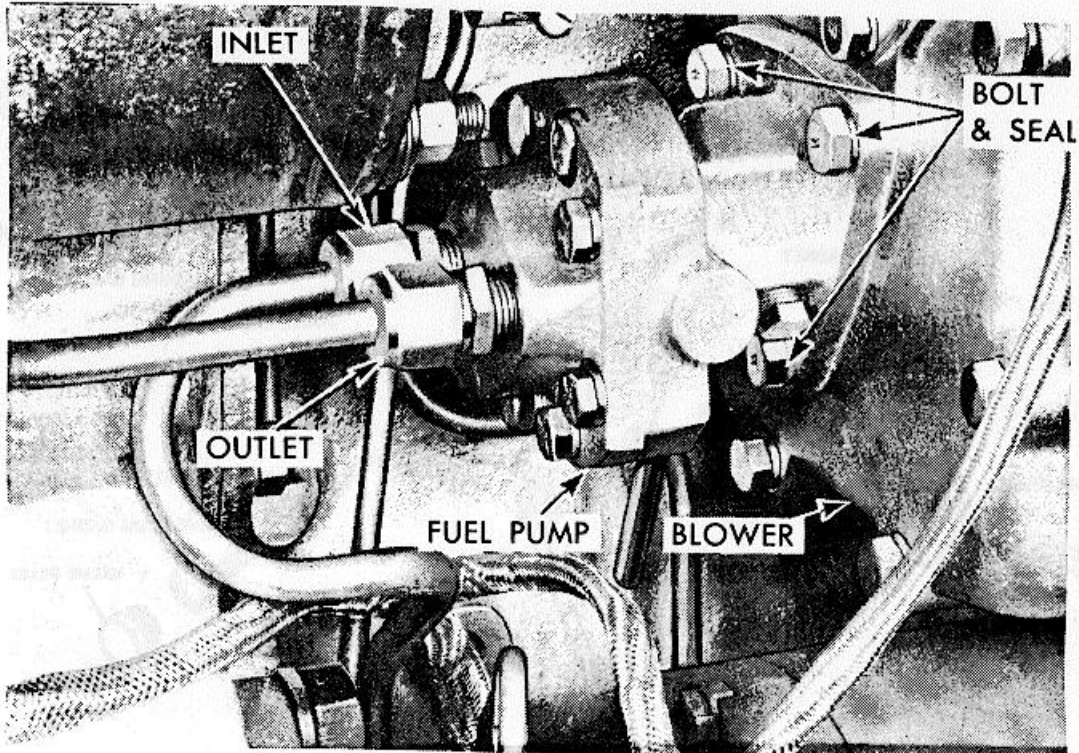
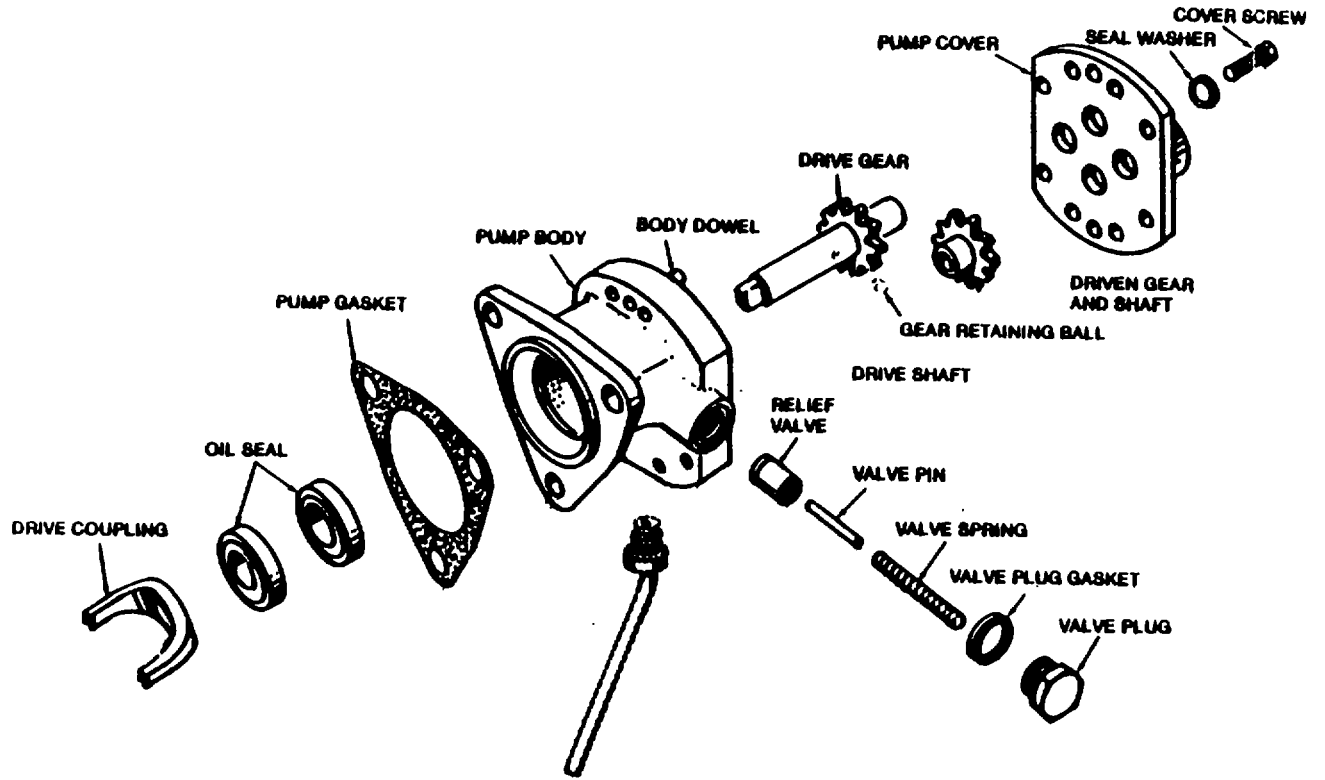

Figure 5-15. Fuel Pump Removal and Installation.
Figure 5-16. Fuel Pump Disassembly and Reassembly.
a. The fuel pump (Figure 5-15) is a positive displacement gear type. The pump circulates or transfers fuel from fuel tank to fuel injectors. The pump circulates excess supply of fuel through fuel injectors and through an aspirator valve to supply fluid for torque converter. The unused fuel returns to fuel tank.
a. Removal. Remove fuel pump assembly as illustrated in Figure 5-15.
(1) Disassemble fuel pump in numerical sequence as illustrated in Figure 5-16.
(2) Remove drive shaft, drive gear, and retaining ball as an assembly.
(3) Press drive shaft through gear far enough to remove ball. Then invert shaft and gear assembly and press the shaft from gear. Do not press square end of shaft through gear.
- (1) Reassemble fuel pump in reverse sequence illustrated in Figure 5-16.
- (2) Install inner oil seal, with lip of oil seal facing toward shoulder of tool. Drive seal in until it bottoms in body counterbore.
- (3) Support pump body on wood blocks and install outer oil seal. Install lip of seal facing the adapter, then insert pilot of installer into pump so seal starts straight into pump flange. Drive seal into the pump body until shoulder of adapter contacts body.
- (4) Lubricate outside diameter of relief valve (Figure 5-15), and install the valve, pin, spring, gasket, and plug.
- (5) Press drive gear on the shaft beyond retaining ball hole in drive shaft. Then, place retaining ball in hole, and press gear back until ends of slot contacts ball.
- (6) Lubricate shaft and gears with clean engine oil. Install drive shaft and driven gear shaft, and gear assembly into the pump body.
- (7) Apply a thin coat of sealer on face of pump cover outside gear pocket area. Install pump cover and secure with eight cover screws.
- (8) After assembly rotate pump shaft by hand to make certain parts rotate freely.